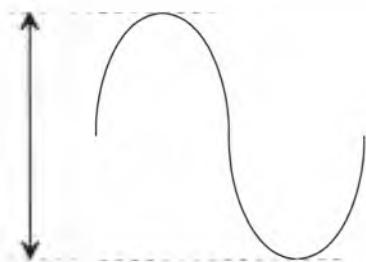

Figure 1
14. What is the name used for the voltage indicated in Figure 1 below?